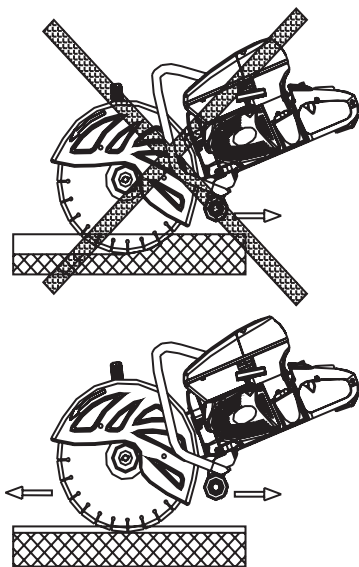

Figure 6
4. Move the blade slowly backwards and forwards, using a small part of the cutting edge of the blade to slowly cut material. Do not cut only in one direction - See Figure 6.